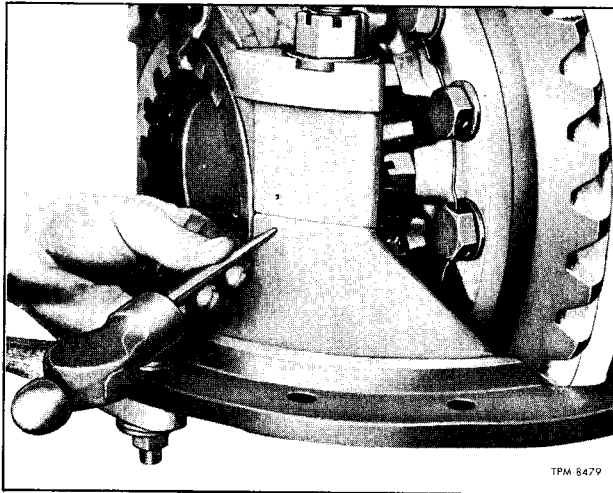

Figure 5—Bearing Cap Alignment Marks
2. Remove wires and nuts (47) from differential side bearing cap studs (46). Make certain that bearing caps (45) and carrier are marked (fig. 5) before removal, then remove side bearing caps (45). Remove side bearing adjusting rings (8). Lift differential assembly with cups (44) from carrier. Remove bearing cups (44) from bearings (43).